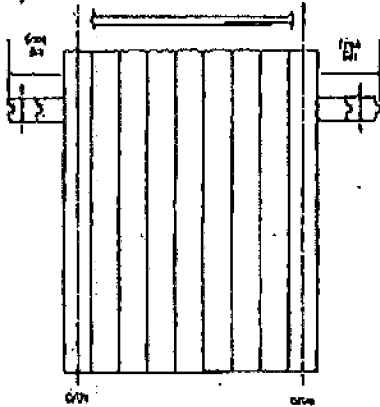

FIG. 9
Step 3. If post spacing is less than 8' on center, you may need to cut equal amounts off the grooved side of the picket on one end of the panel and the tongued side of the picket on the opposite end (fig. 9).